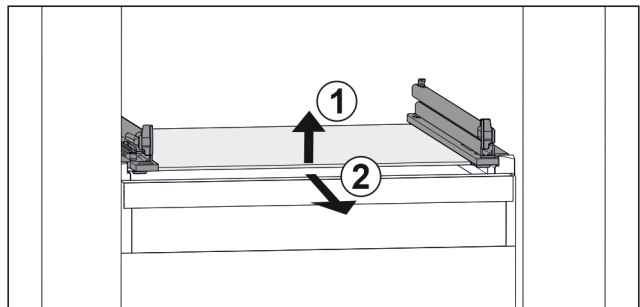

Fig. 21 Example illustration of glass shelf
- ▶ Lift glass shelf at the front. Fig. 21 (1)
- ▶ Remove glass shelf to the front. Fig. 21 (2)